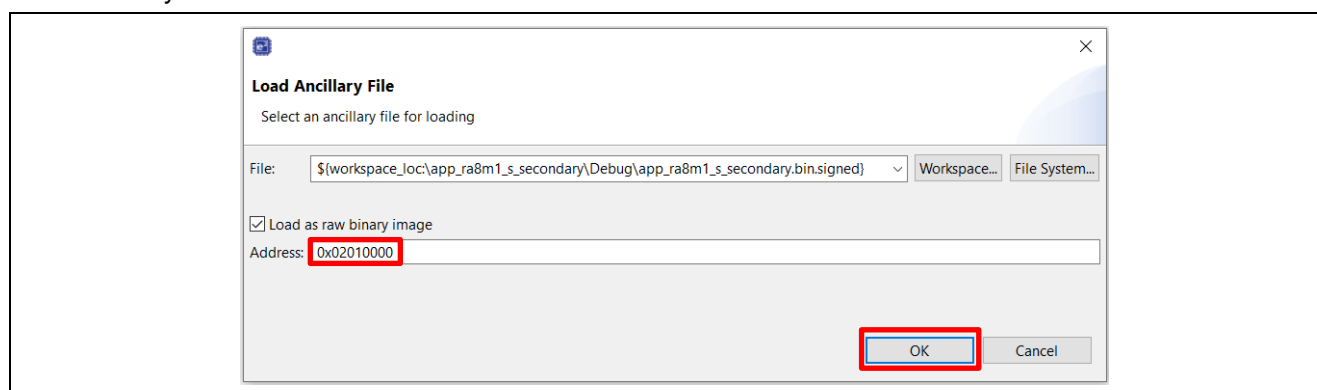

Figure 19. Load the Secondary Secure Application Image for Overwrite Update Mode
2. Load the secure new application images to the Secondary slot region using the Ancillary loading capability  from the top of the e² studio toolbar in a similar way as Figure 19 except use address 0x02020000.